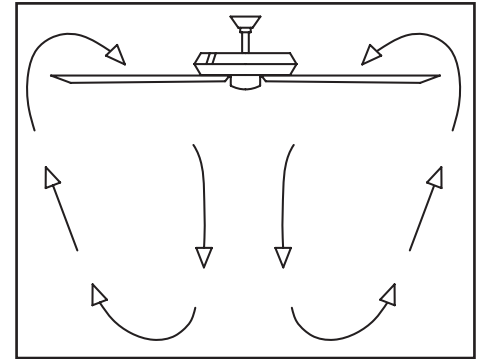

Figure 13
**Warm weather** - (Forward) A downward air flow creates a cooling effect as shown in Figure 13. This allows you to set your air conditioner on a higher setting without affecting your comfort.